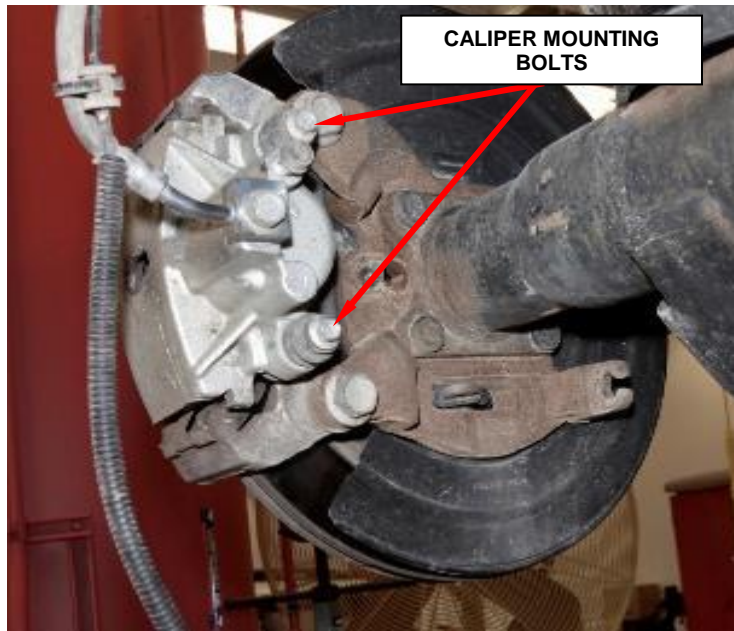

Figure 6 – Brake Caliper Bolts
7. Remove the brake caliper mounting bolts from the right rear and left rear brake calipers (Figure 6).